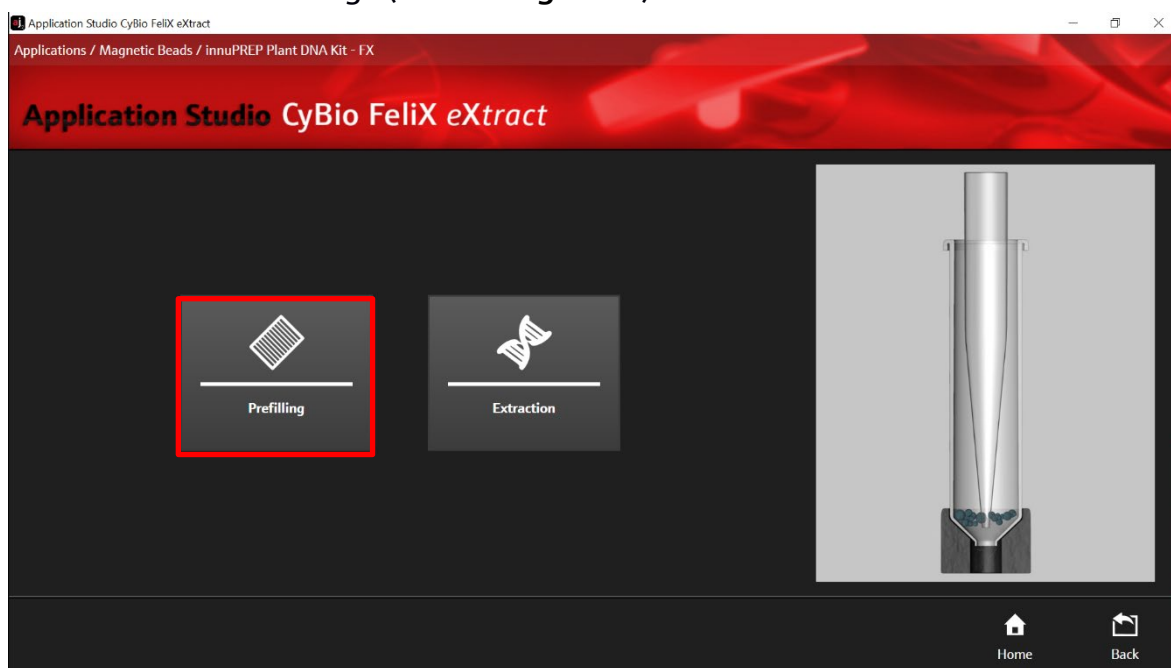

Figure 6: Routine selection in the AppStudio Felix eXtract: Prefilling.
16. Choose "Prefilling" (→ see Figure 6).